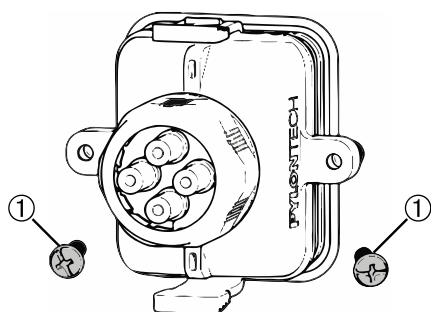

Fig. 2.9 - protection cover screws
- Dismantle the two screws from the communication protection cover (1, Fig. 2.9);
- reposition the protection cover and secure it to the control module with the appropriate screws (1, Fig. 2.9).